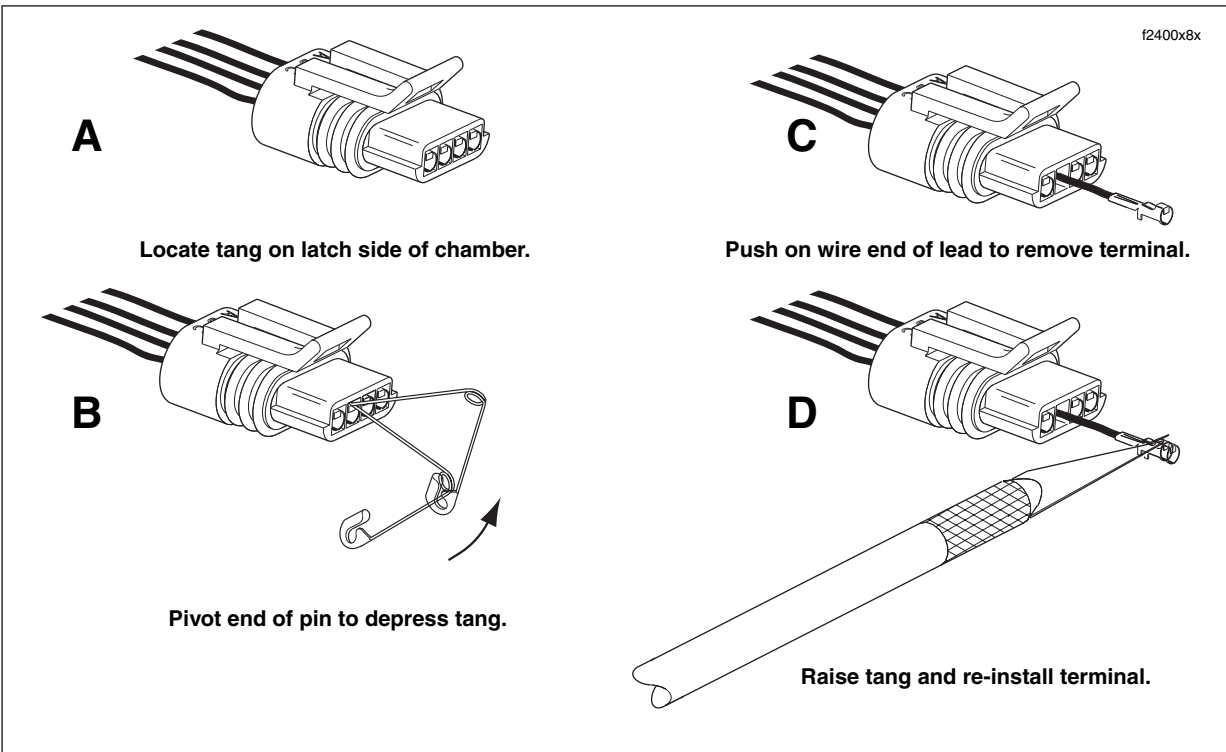
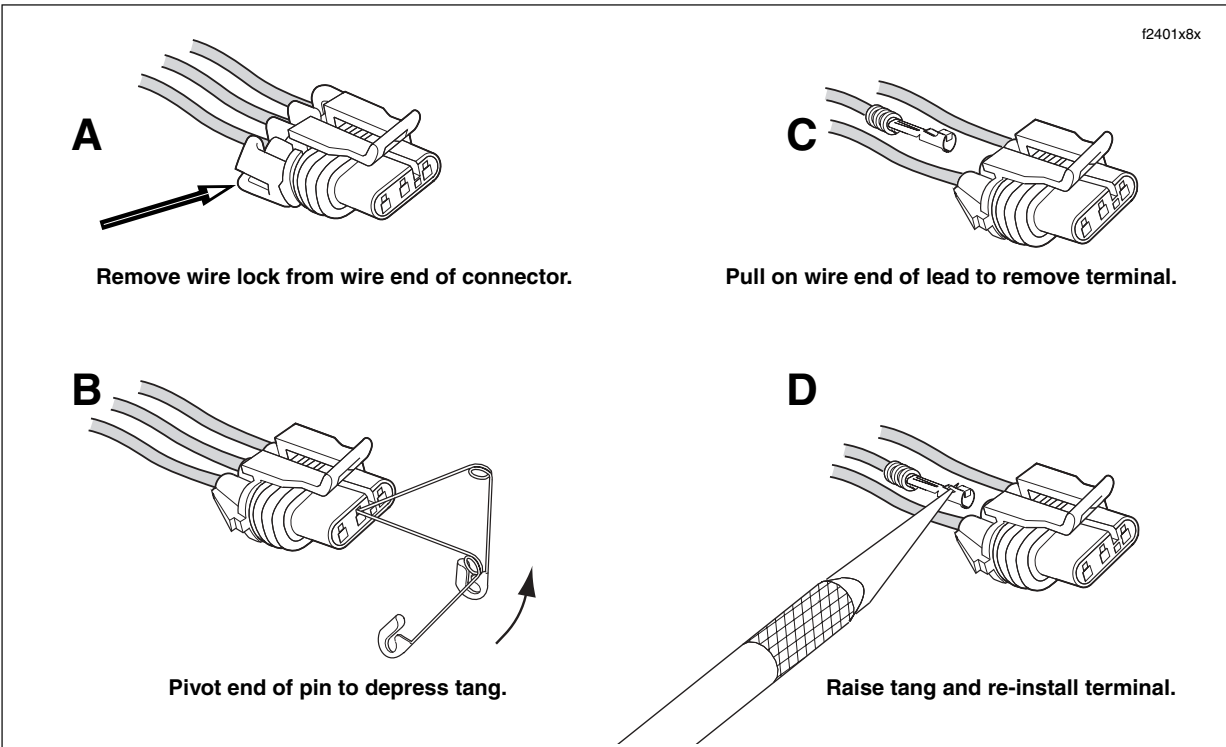

Figure B-19. Depress Tang and Extract Terminal From Mating End of Pull-to-Seat Connector
Figure B-20. Depress Tang and Extract Terminal From Wire End of Push-to-Seat Connector
2. Note that there are two types of connectors in this series, pull-to-seat terminal and push-to-seat terminal connectors. Remove wire lock from wire end of socket housing on push-to-seat type connectors. For best results, free one side of wire lock first and then release the other side. See A of Figure B-20.
4. Gently insert the point of a one inch safety pin into the chamber about 1/8 inch (3.2 mm) staying between the terminal and the chamber wall, and then pivot the end of the pin toward the terminal body. See B in Figure B-19 or Figure B-20. On push-to-seat type connectors, take note that there is a small opening for insertion of the pin.
6. Remove the pin. On pull-to-seat connectors, push on the lead to extract the terminal from the mating end of the connector. See C in Figure B-19. On push-to-seat connectors, pull on the lead to draw the terminal out the wire end. See C in Figure B-20.
1. Using a thin flat blade, like that on an X-Acto knife, carefully bend the tang outward away from the terminal body. See D in Figure B-19 or Figure B-20.
4. On push-to-seat type connectors, seat wires in separate channels of wire lock and then push channels inside chambers at wire end of socket housing. Fully installed, slot on each side of wire lock engages ear on socket housing. See A of Figure B-20.